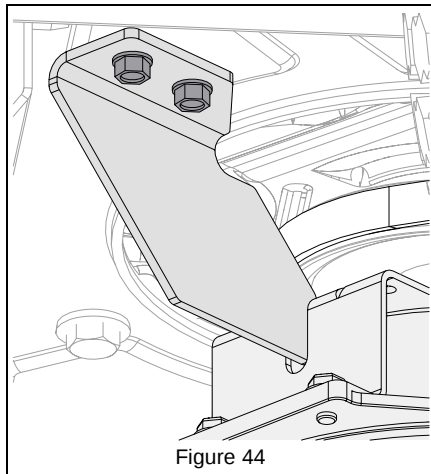

Figure 44
4. Reinstall clutch stop bracket and secure with original hardware. See Figure 44.